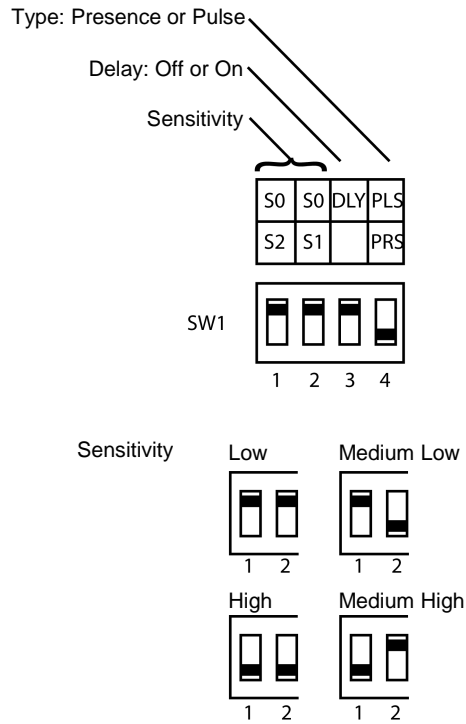

Figure 15
7. Configure the dip switches according to the table on the circuit board and your needs (see Figure 15).